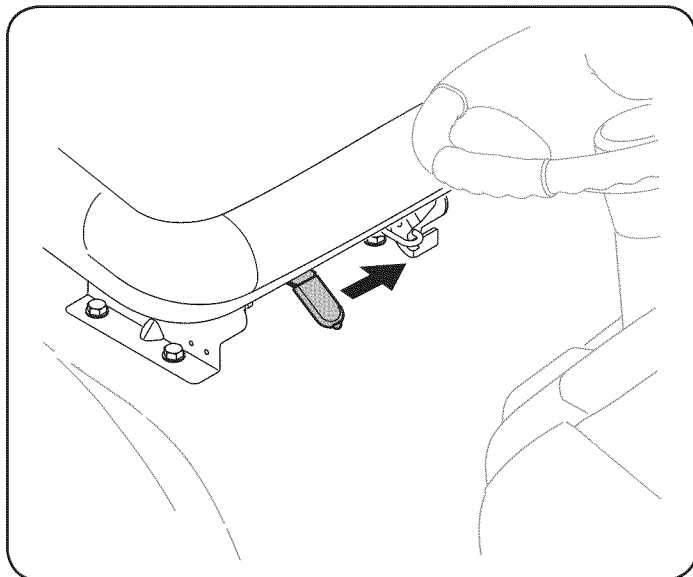

Figure 5
3. To adjust the position of the seat on models equipped with a seat adjustment lever, move the seat adjustment lever (located under the seat) to the left and slide the seat forward or rearward until it securely engages into a seat stop. See Fig. 5. Make sure seat is locked into position before operating the tractor.